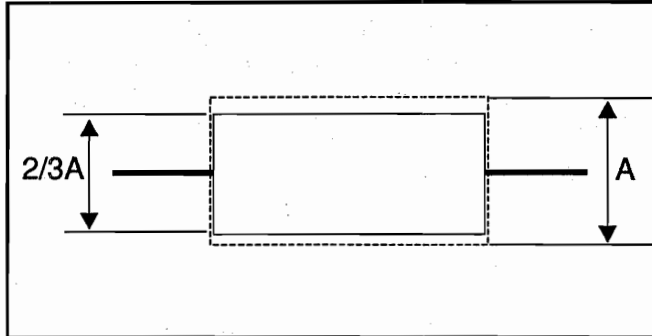

Fig. 1-7
- 2) Turn VR525 until the amplitude of the RF waveform becomes 2/3 of the full level. (Fig. 1-7)